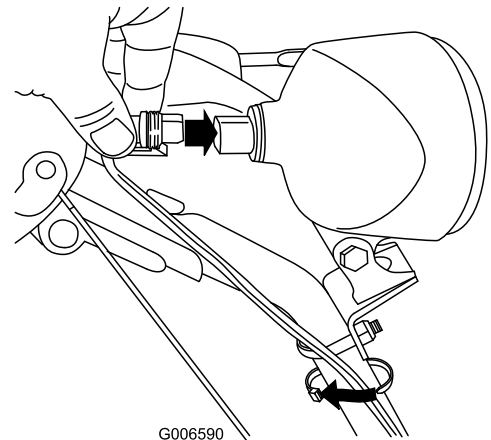

Figure 65
6. Insert the wire connector straight into the back of the headlight until it is securely in place (Figure 65).